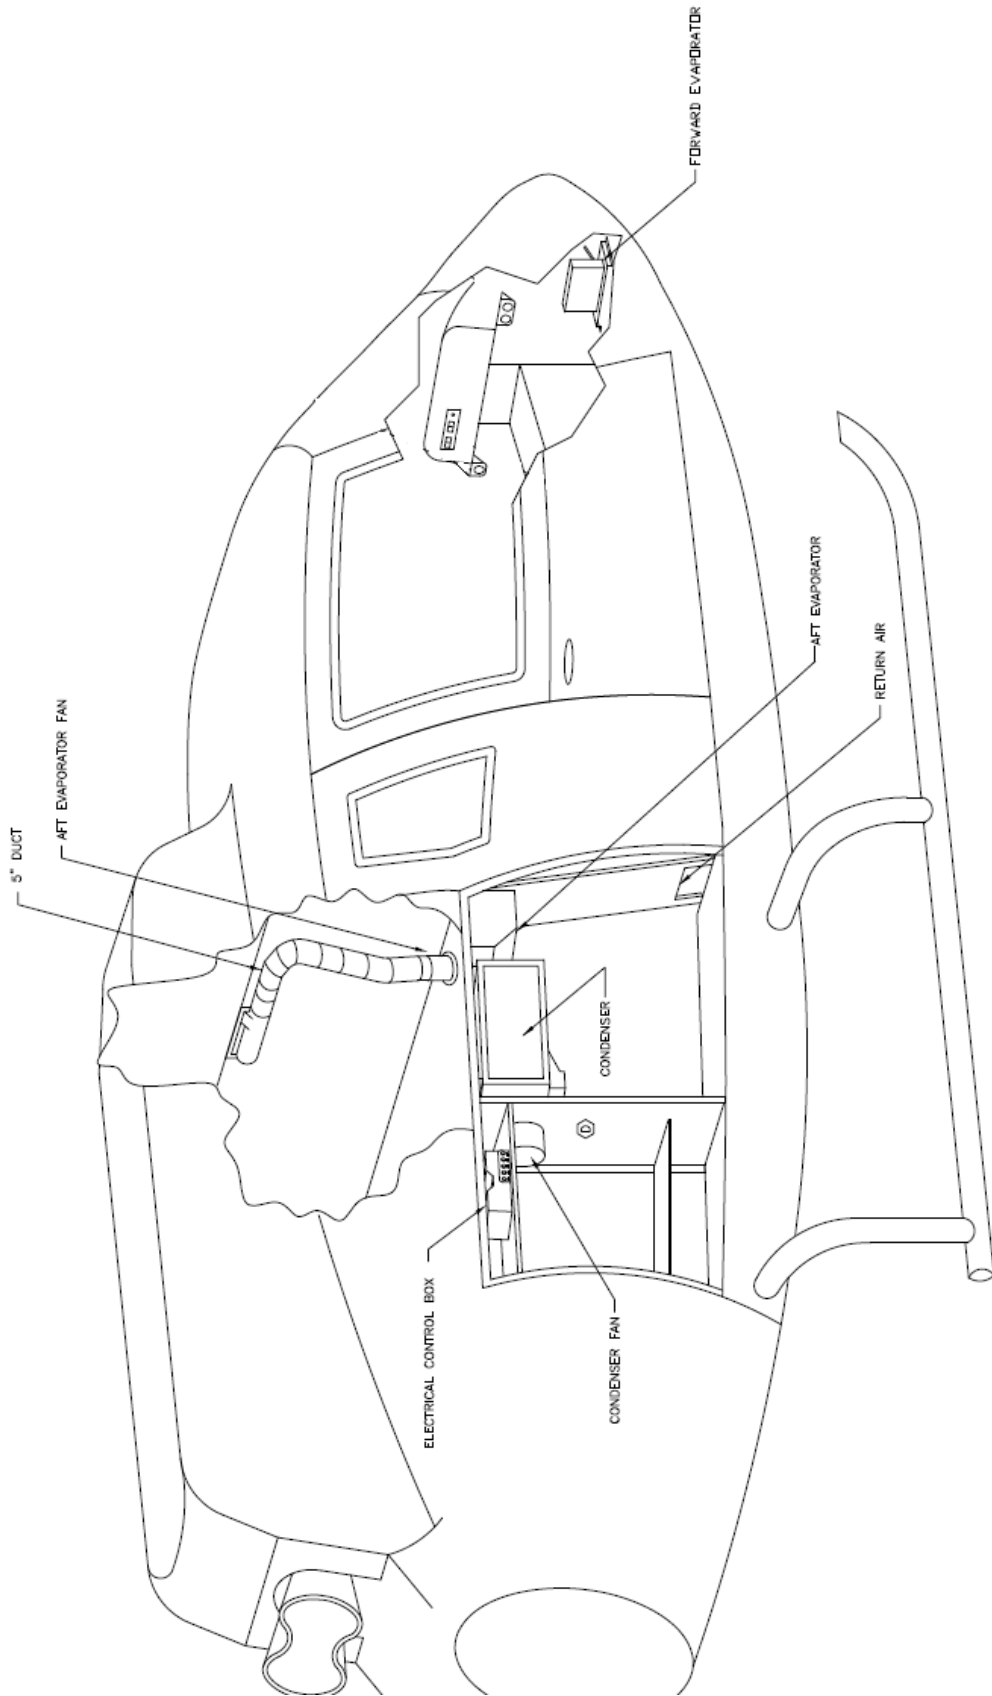
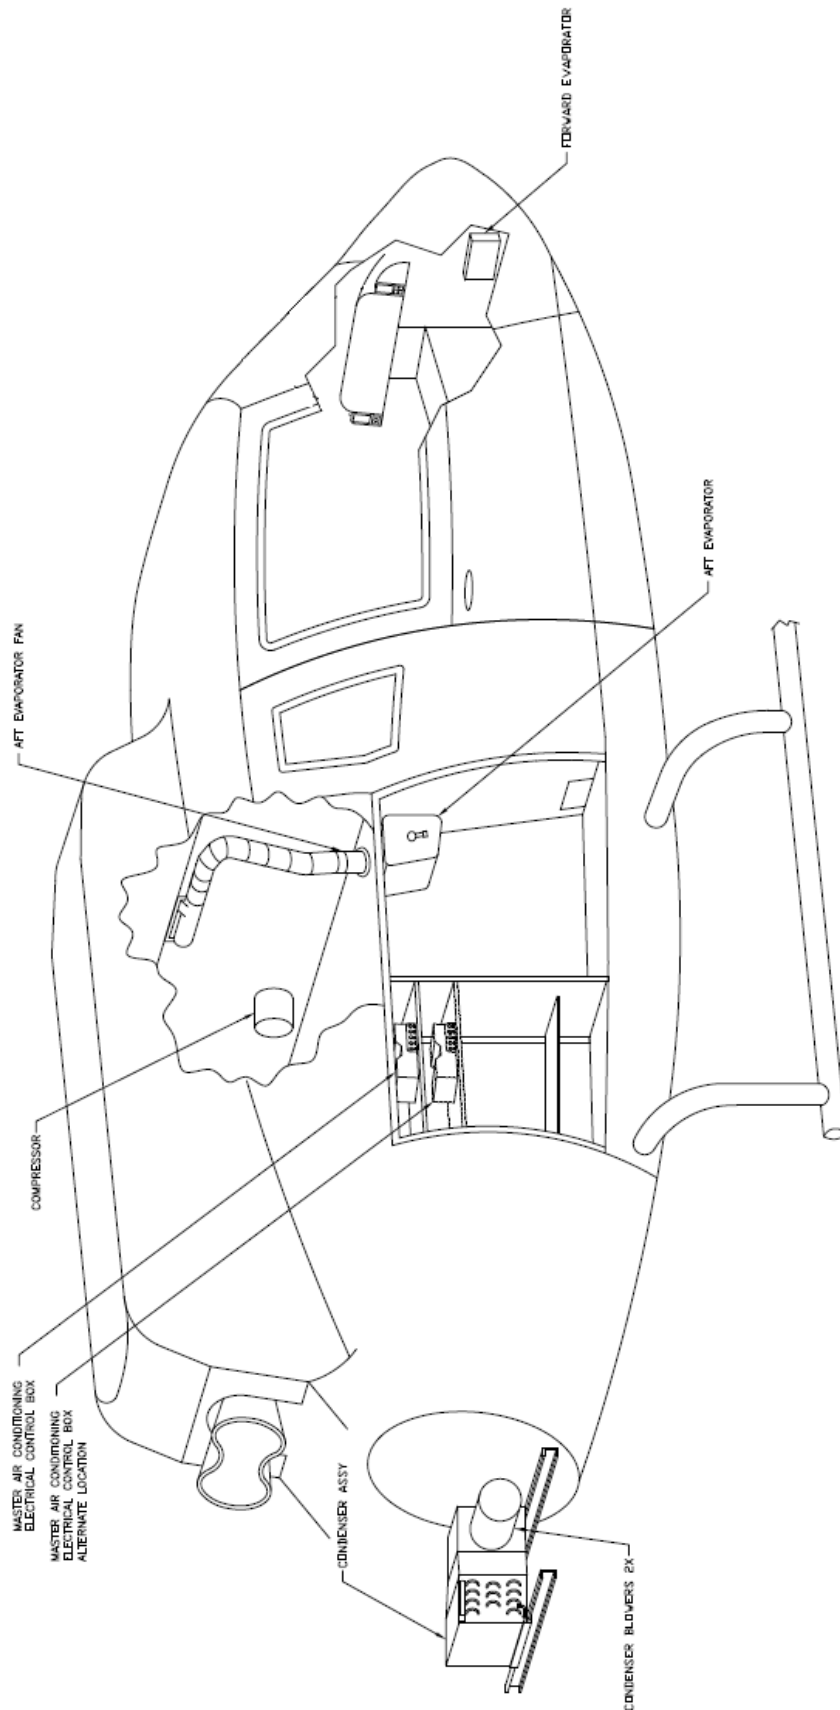

Figure 6-01
Figure 6-02
##### a) Access Item Identification (Ref. figures 6-01 & 6-02)
- **Condenser**- The condenser is located in one of two positions depending on kit part number (Ref. Section 21.00.00 System Description). The aft mounted condenser (Kit numbers 350-00-031HP and 130-00-031HP) (Ref. figure 6-02) is mounted in the tail boom mounted 5 in. above the baggage floor and is accessed by removing the tail boom closeout panel. The side mounted condenser is located in the right baggage compartment (Ref. figure 6-01) and is accessed by removing to baggage compartment close out panel.